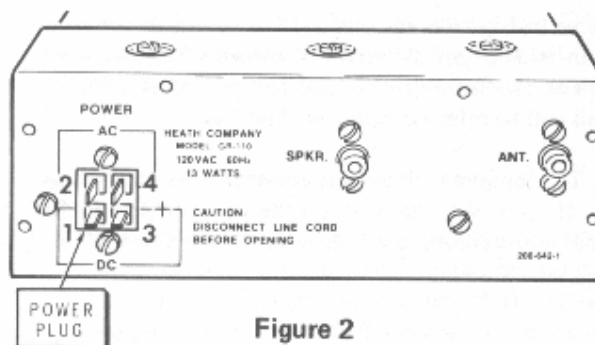

Figure 2
- () Refer to Figure 2 and place the positive ohmmeter probe on lug 3 of the power plug. This reading should be greater than 50Ω .